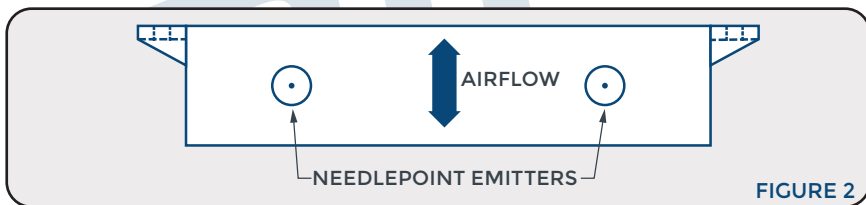

FIGURE 2
2. Insure that air flows over the two needlepoint emitters simultaneously. (See Figure 2)